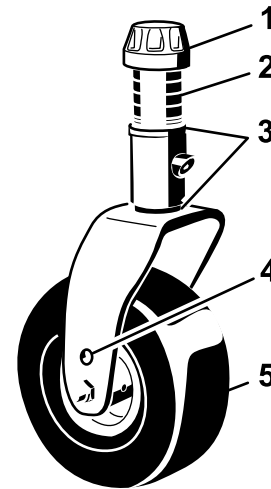

Figure 18
3. Remove the tensioning cap from the spindle shaft (Figure 18) and slide the spindle out of the castor arm. Put the 2 shims (3 mm [1/8 inch]) onto the spindle shaft as they were originally installed. These shims are required to achieve a level across the entire width of the cutting units. Slide the appropriate number of 13 mm (1/2 inch) spacers (refer to the chart below) onto the spindle shaft to get the desired height-of-cut; then slide the washer onto the shaft.